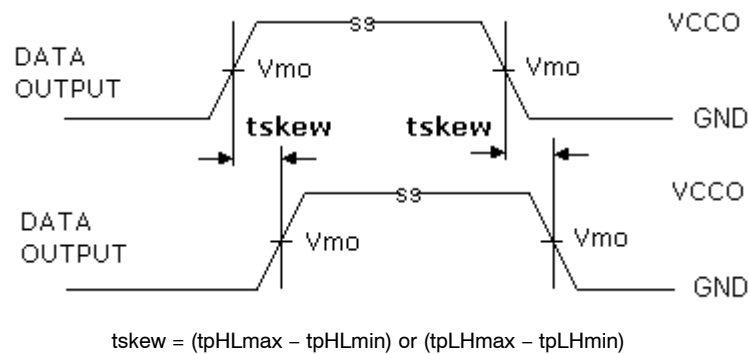

Figure 11. Output Skew Time
12. Skew is the variation of propagation delay between output signals and applies only to output signals on the same Side (An or Bn) and switching with the same polarity (LOW-to-HIGH or HIGH-to-LOW). Skew is guaranteed, but not tested in production (see Figure 11).
13. Skew is the variation of propagation delay between output signals and applies only to output signals on the same Side (An or Bn) and switching with the same polarity (LOW-to-HIGH or HIGH-to-LOW). Skew is guaranteed but not tested in production (see Figure 11).
14. Skew is the variation of propagation delay between output signals and applies only to output signals on the same Side (An or Bn) and switching with the same polarity (LOW-to-HIGH or HIGH-to-LOW). Skew is guaranteed, but not tested in production (see Figure 11).